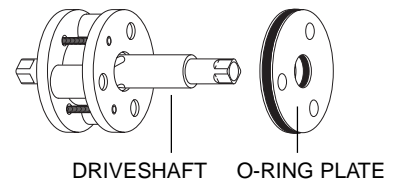

Figure 5:
9. Take care to hold the rest of the subassembly together, and slide the O-ring plate off the drive shaft. **(Figure 5)** (If the sub-assembly comes apart despite your caution, reassembly instructions are provided at the end of this procedure.)